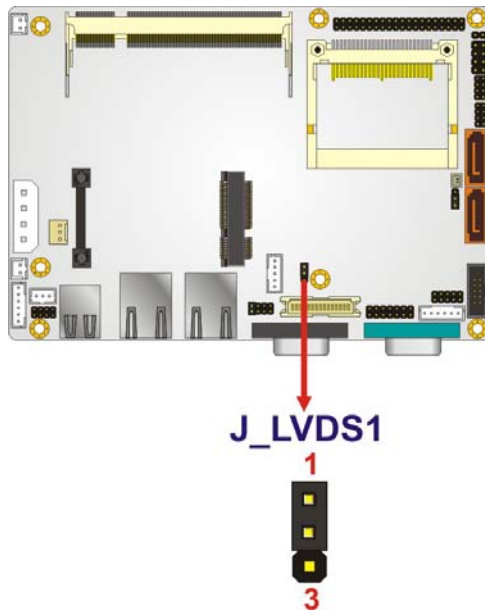

Figure 4-8: LVDS Voltage Selection Jumper Pinout Locations
- Jumper Location:** See Figure 4-8